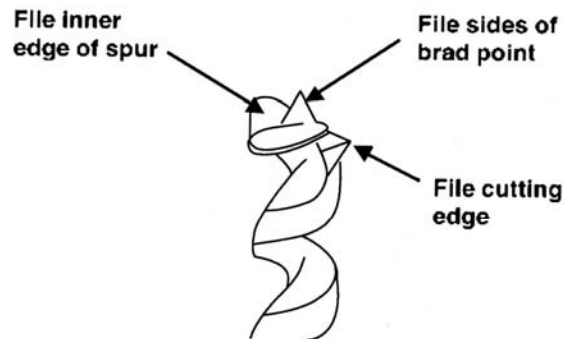

FIGURE 7
1. Sharpen the bit by using a small, smooth file, following the original shape of the bit. File the inside edge of the spur, the sides of the brad point and the cutting edge inwards toward the flute of the bit. See Figure 7